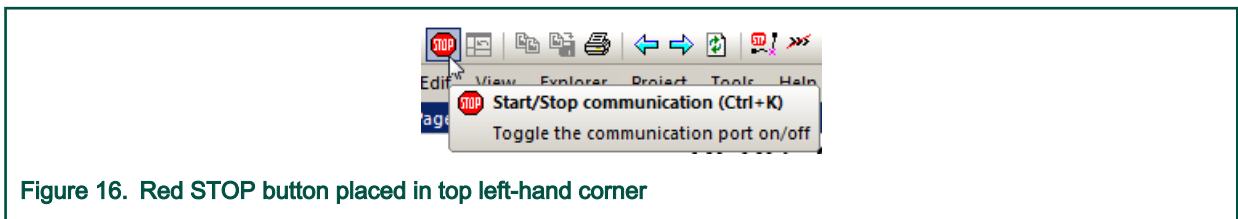

Figure 16. Red STOP button placed in top left-hand corner
- Click the communication button (the red STOP button in the top left-hand corner, as shown in Figure 16) to establish the communication.
1. Click the "STOP" button in the FreeMASTER control page (Figure 16).